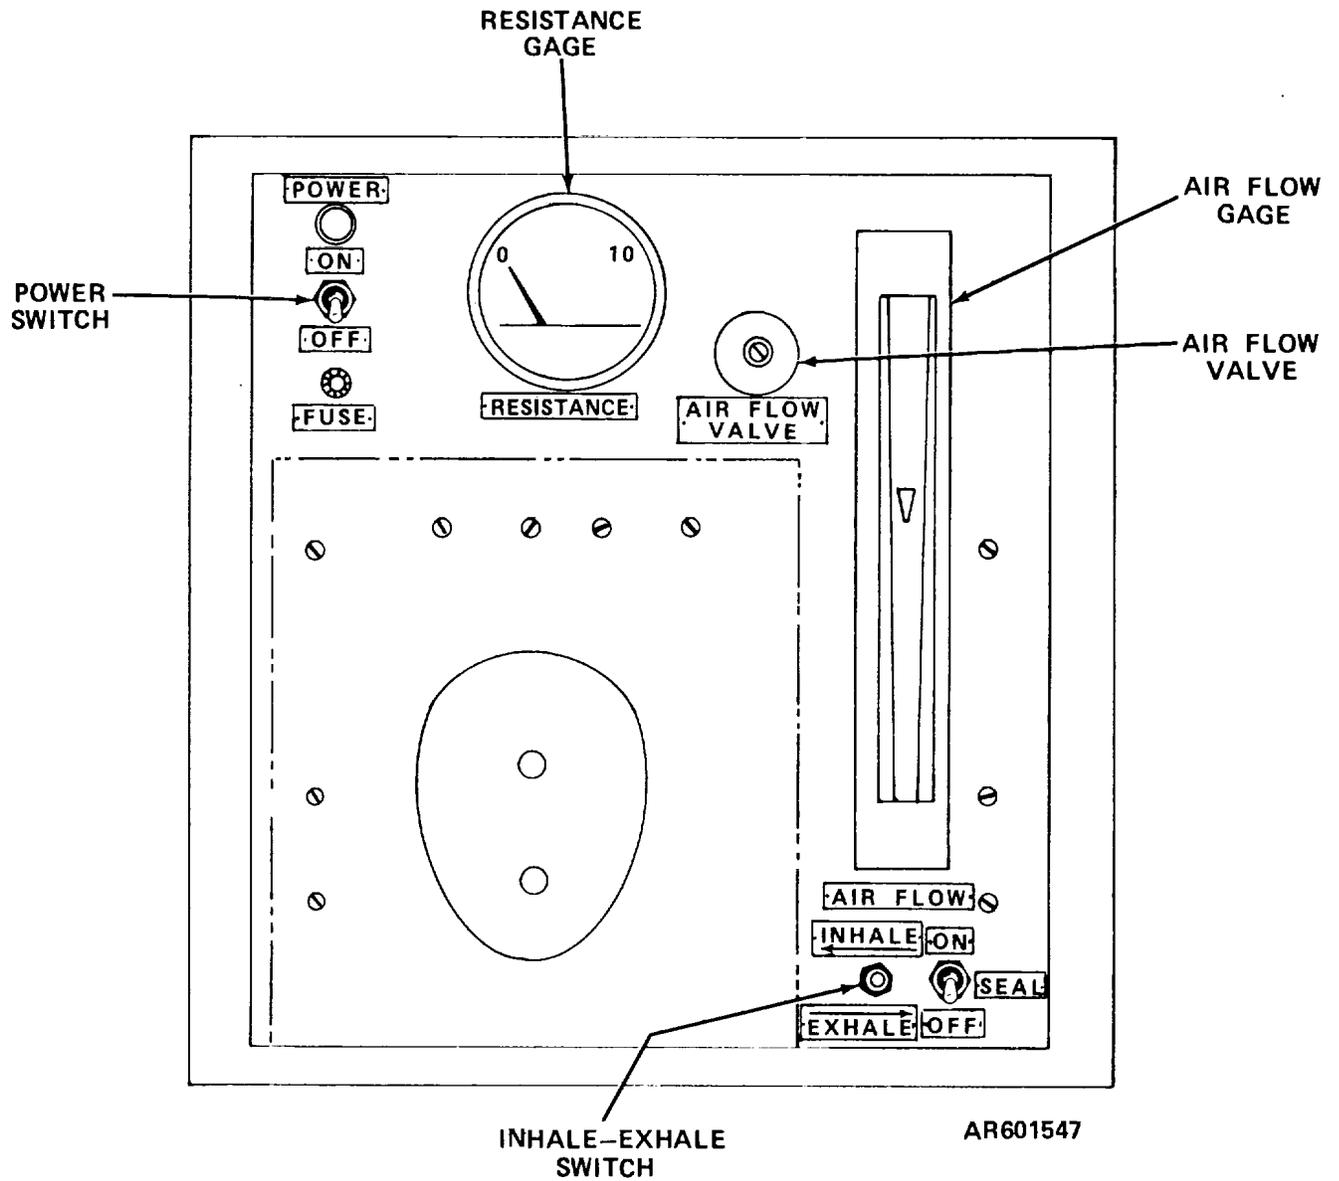
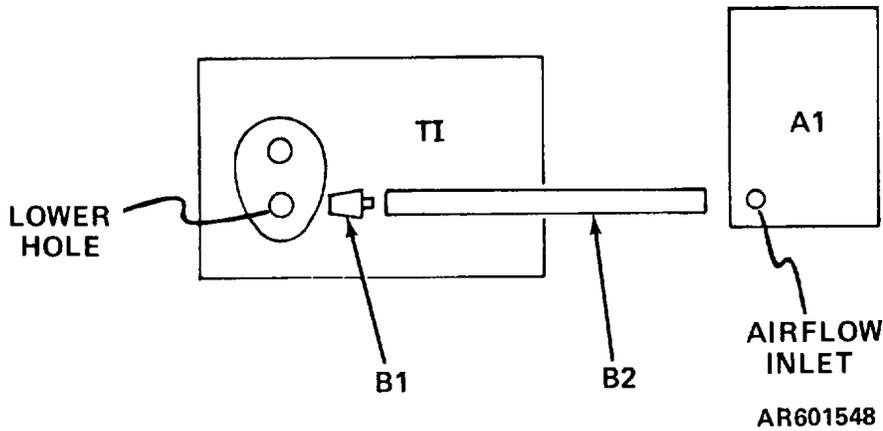

Figure 2. Location of TI controls and instruments used during calibration.
Figure 3. AIR FLOW gage performance check, equipment setup.
**7. Equipment Setup. (fig. 2).** *a.* Adjust the mechanical zero-adjustment on TI resistance gage to zero.
(1) Connect the test equipment as shown in figure 3.
(2) Set and hold the INHALE-EXHALE switch to EXHALE.
(3) Adjust the AIR FLOW VALVE until the AIR FLOW gage (fig. 2) indicates 85. The flowmeter (A1) must indicate between 225 and 235.
(4) Release the INHALE-EXHALE switch.